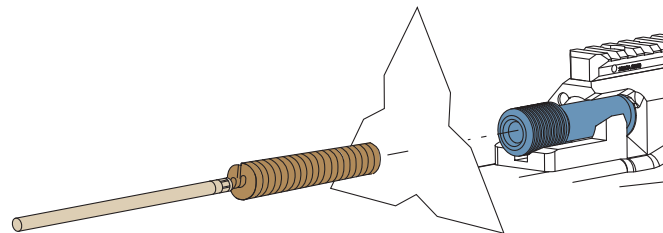

Fig 6-1
Do not use triangle patches with non tapered brushes (see Fig 6-1 on page 38) these should be used with Boresmith tapered brushes only. If Boresmith products are not available use the patch with a jag.
- Fit a triangle patch onto the jag brush and pass through to dry the bore and chamber (see Fig 6-1 on page 38).